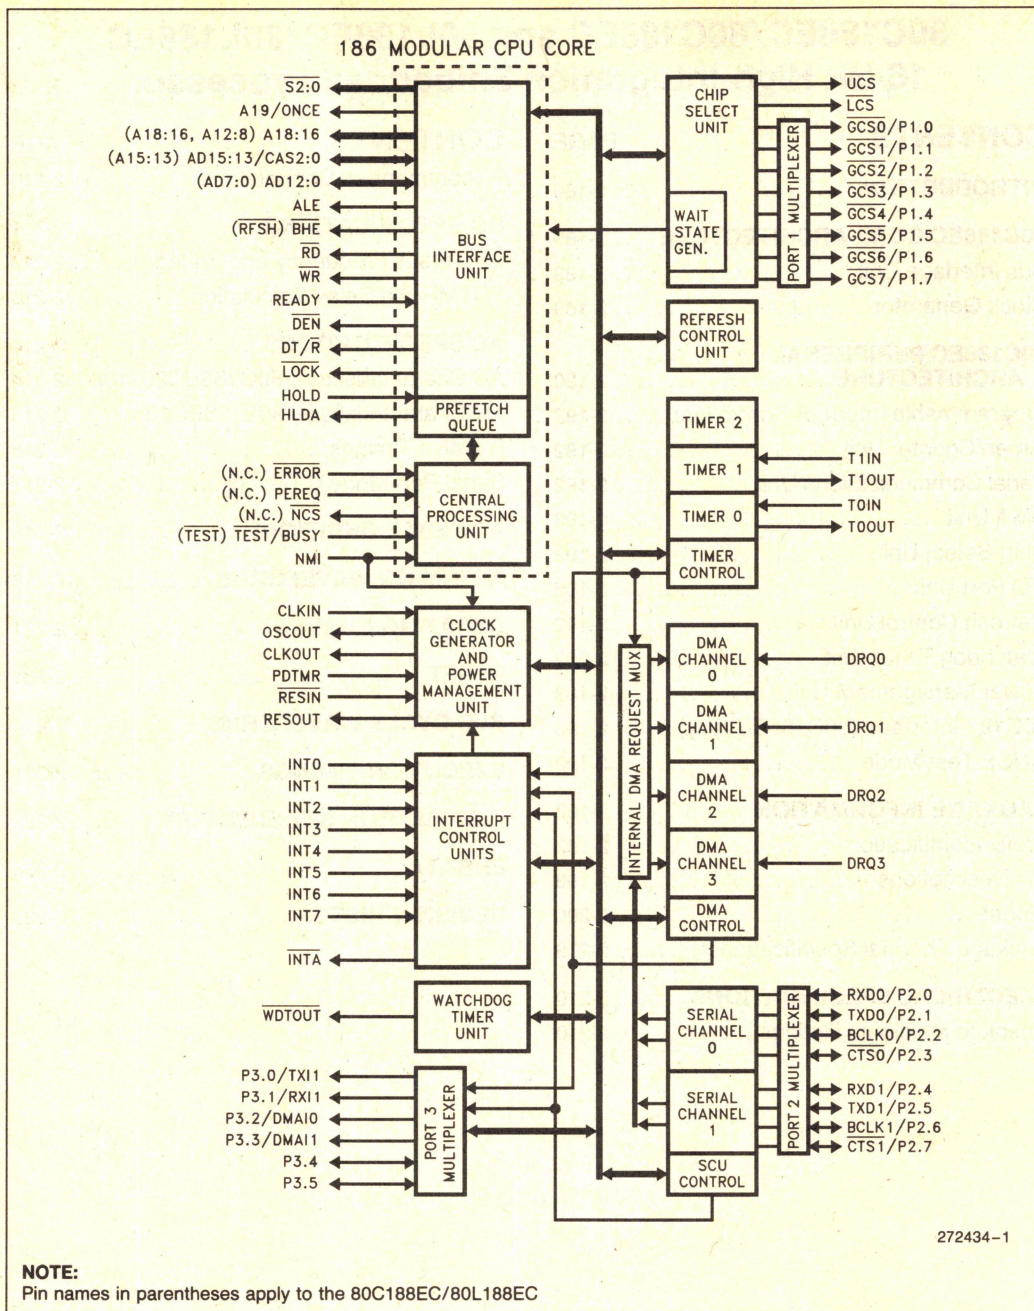

Figure 1. 80C186EC/80L186EC Block Diagram
Figure 1 shows a block diagram of the 80C186EC/80C188EC. The execution unit (EU) is an enhanced 8086 CPU core that includes: dedicated hardware to speed up effective address calculations, enhanced execution speed for multiple-bit shift and rotate instructions and for multiply and divide instructions, string move instructions that operate at full bus bandwidth, ten new instructions and fully static operation. The bus interface unit (BIU) is the same as that found on the original 186 family products, except the queue-status mode has been deleted and buffer interface control has been changed to ease system design timings. An independent internal bus is used for communication between the BIU and on-chip peripherals.